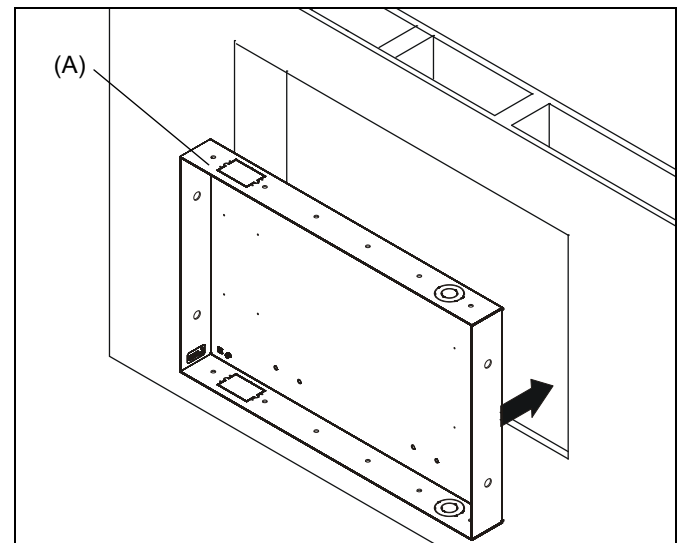

Figure 3
1. Install PAC-GB1 Listed electrical box accessory (not included) into the TA500 (A) following instructions included with the PAC-GB1.
4. Center TA500 (A) in opening and insert into opening. Align front of box with front face of wall. (See Figure 3)